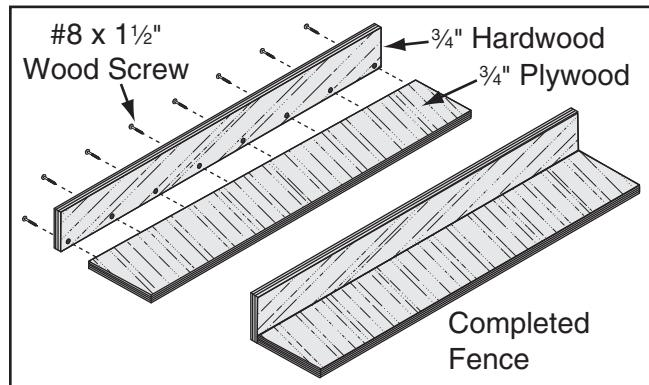

Figure 90. Location of pilot holes.
2. Pre-drill and countersink (8) pilot holes $\frac{3}{8}$ " from bottom of 3" wide board, then secure boards together with (8) #8 x $1\frac{1}{2}$ " wood screws, as shown in **Figure 90**.